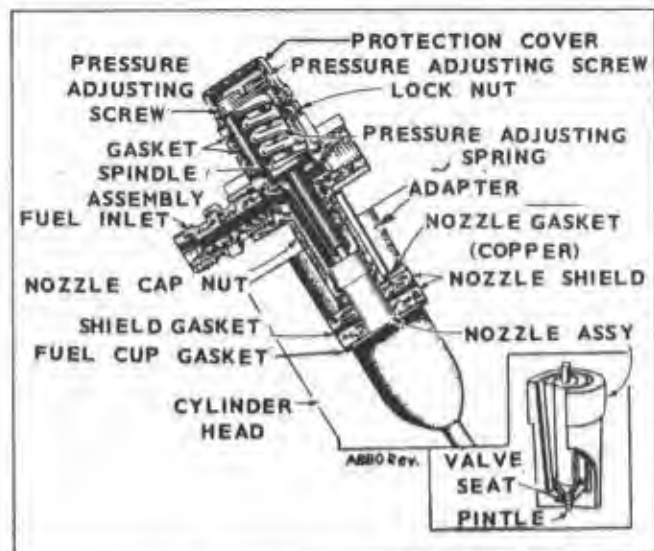

Figure 26. Nozzle Assembly
**Adjustment:** To adjust the opening pressure, remove the nozzle from the engine. Remove the cap nut over the adjusting screw of the nozzle and install the nozzle on a static fuel nozzle testing fixture (it may be purchased from *Onan*.) Following the tester instructions, adjust the opening pressure to 1,750 psi by turning the adjusting screw (Fig. 26). Turning it clockwise increases the pressure and turning counterclockwise decreases it. *Do not* try to adjust the pressure without a testing fixture.